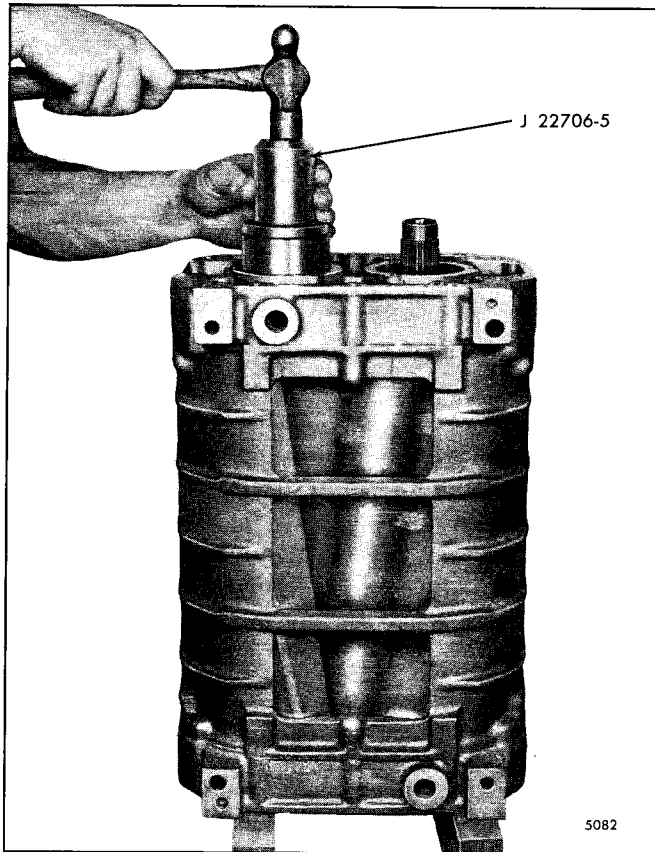

Fig. 18 - Installing Ball Bearings on Rotor Shafts and in Rear End Plate using Tool J 22706-5
- b. Place installer J 22706-5 on top of the bearing and tap the bearing straight on the shaft and into the rear end plate (Fig. 18).